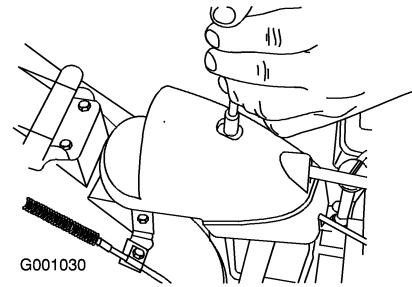

Figure 47
1. Remove the fastener on the gear cover (Figure 47), lift the front of the cover up, and slide it back and out of the way.